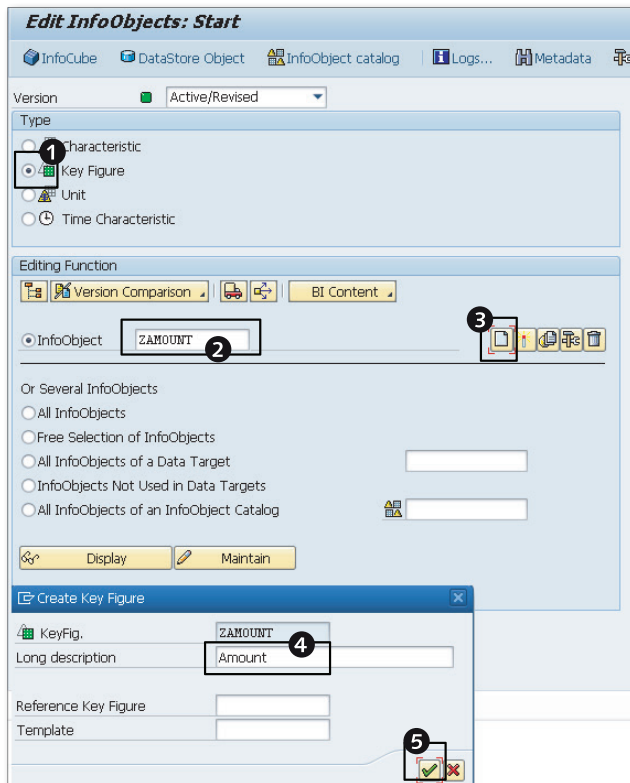

Figure 3.8 Settings to Create a New Custom Key Figure InfoObject
We'll now create a custom key figure InfoObject, as illustrated in Figure 3.8 and Figure 3.9. The technical name of the InfoObject is ZAMOUNT.
2. Under TYPE, select KEY FIGURE (Figure 3.8, ❶).
3. In the text field next to the INFOOBJECT option, enter the technical name of the InfoObject ("ZAMOUNT"), and click on the CREATE button (Figure 3.8, ❷ and ❸).
4. In the CREATE KEY FIGURE dialog box, in the LONG DESCRIPTION text field, enter a description ("Amount"), and then click on the ENTER button (Figure 3.8, 4 and 5).